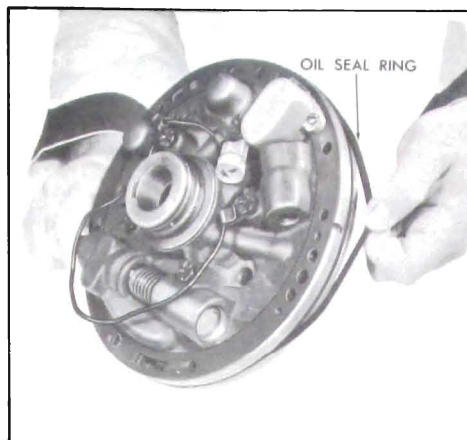

Figure 5-540
4. Remove and discard pump to case seal ring. See Figure 5-540.